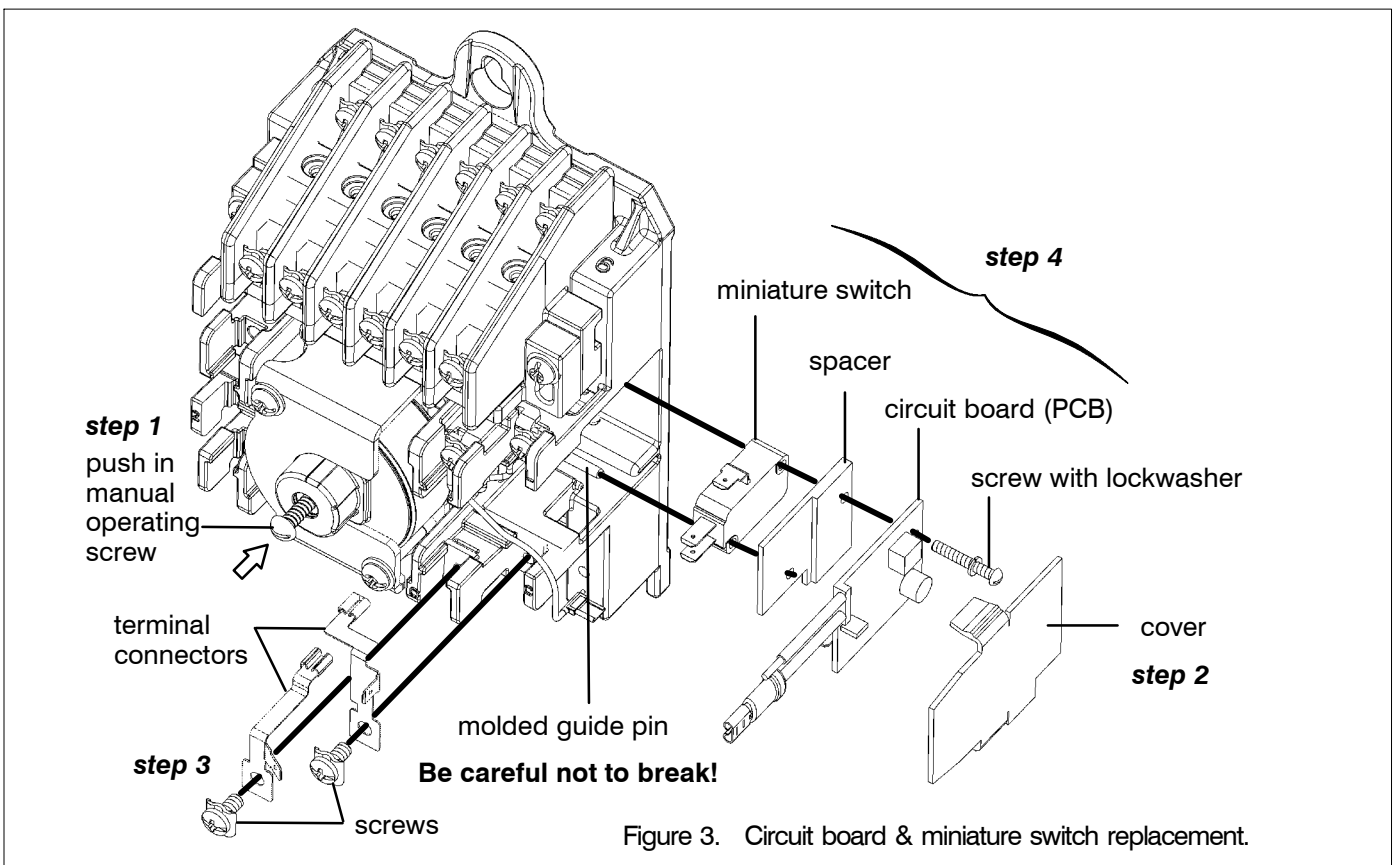

Figure 3. Circuit board & miniature switch replacement.
2. Remove cover and two terminal connectors. Figure 3. First, pull off the cover on the right side. Next use a screwdriver (counterclockwise) to remove the **O** and **C** terminal screws, then carefully disconnect the two terminal connections from the top of the miniature switch. Then remove the two terminal connectors.
wire from the circuit board (PCB 2). The other wires do not need to be disconnected to remove the circuit board and miniature switch. Use a small screwdriver (counterclockwise) to remove the small screw. Then remove the spacer, circuit board (PCB), miniature switch. Be careful not to break the molded guide pin. See Figures 3 and 4.
4. Install the new miniature switch onto the guide pin. **Very carefully** install the new miniature switch, spacer, and new PCB onto the molded guide pin. Then install the small screw with lockwasher through the PCB, spacer, and miniature switch. Tighten the screw to 4 in-lb (clockwise). See Figure 3.
5. Reinstall the terminal connectors and cover. Figure 3. Install two terminal connectors to the top of the miniature switch as shown in Figure 3. Reinstall the O and C terminal screws. Then snap on the cover on the right side.